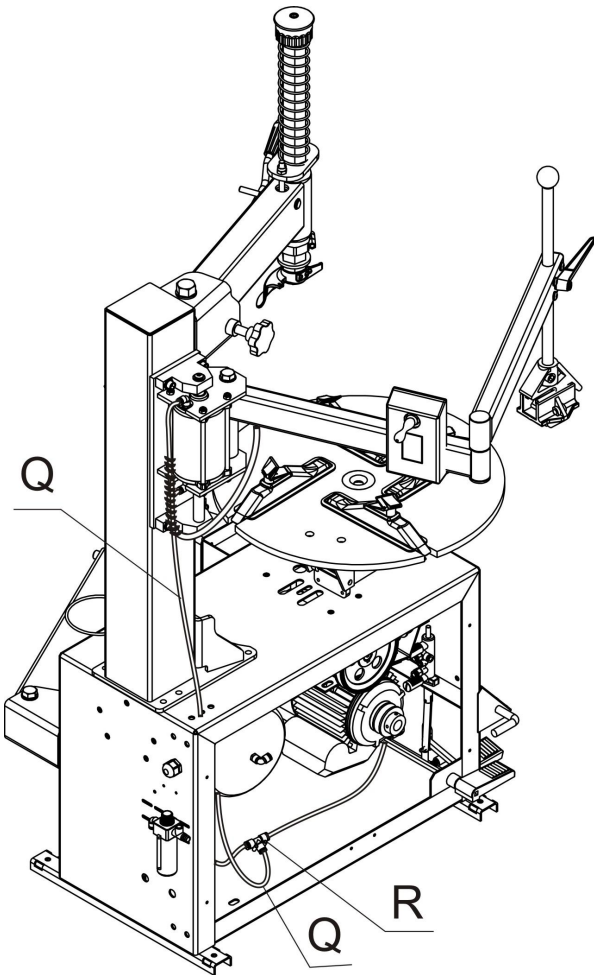

Fig. 7
- As Fig.7 remove side cover, insert arm air tube O into the frame, connect it with R(if there is no R installed, find it in the box together with the arm)